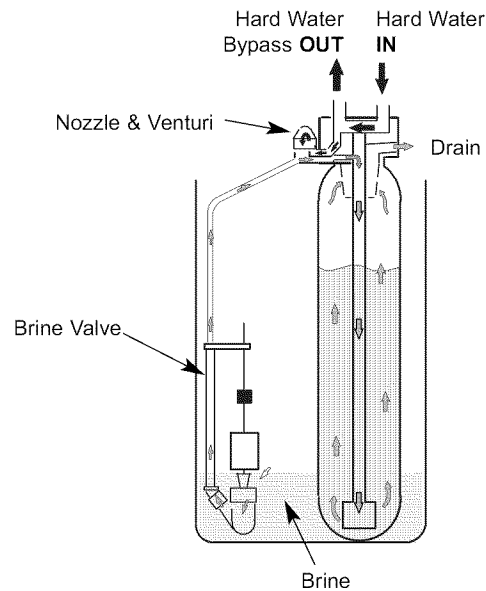

FIG. 38
**BRINING:** During brining, the brine is moved from the salt storage area, into the resin tank. See Fig. 38. Inside the resin tank, brine cleans hardness minerals from the resin beads and they are discharged out the drain. How much brine is needed to clean the resin depends on:
**BRINE RINSE:** After all of the brine is moved into the resin tank, the brine valve closes. Water keeps flowing the same way it did during brining except the brine flow has stopped. Hardness minerals and brine flush from the resin tank to the drain. Brining and brine rinse together vary in the length of time they take, relative to the fill cycle length. See Fig. 38.